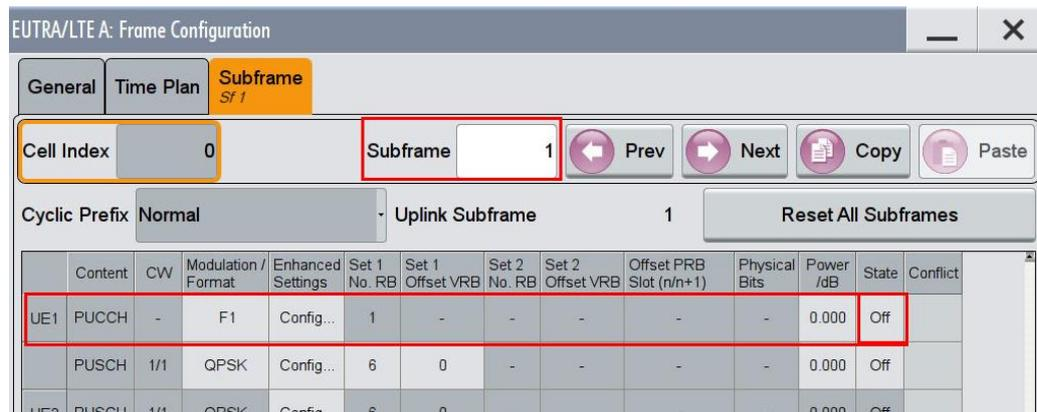

Fig. 3-96: In the second configurable subframe (subframe #1) the PUCCH is not transmitted (state Off)
10. Make sure that the PUCCH in the second configurable subframe is not transmitted. (State **Off**) (Fig. 3-96)